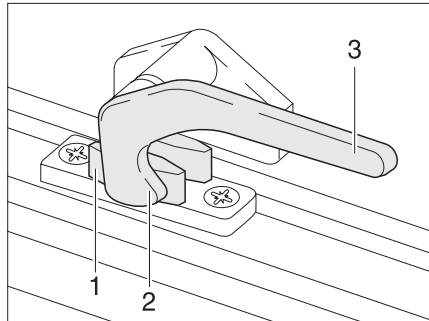
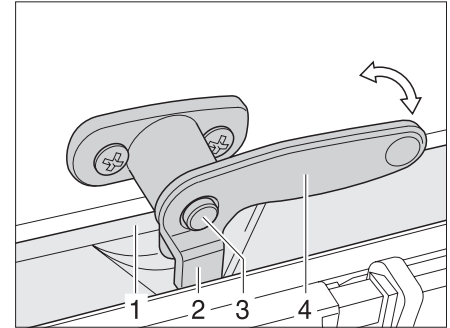

Fig. 39 Catch lever in "closed" position
Fig. 40 Catch lever with safety knob in "closed" position
- ▶ If it exists, press the safety knob (Fig. 40,3) down and hold it.
- ▶ Turn the catch lever (Fig. 39,3 or Fig. 40,4) a quarter turn towards the centre of the window.
- ▶ Turn the catch lever (Fig. 39,3 or Fig. 40,4) a quarter turn towards the centre of the window frame. The locking catch (Fig. 39,2 or Fig. 40,2) is located on the inside of the window catch (Fig. 39,1 or Fig. 40,1).
- "Firmly closed" (Fig. 39)